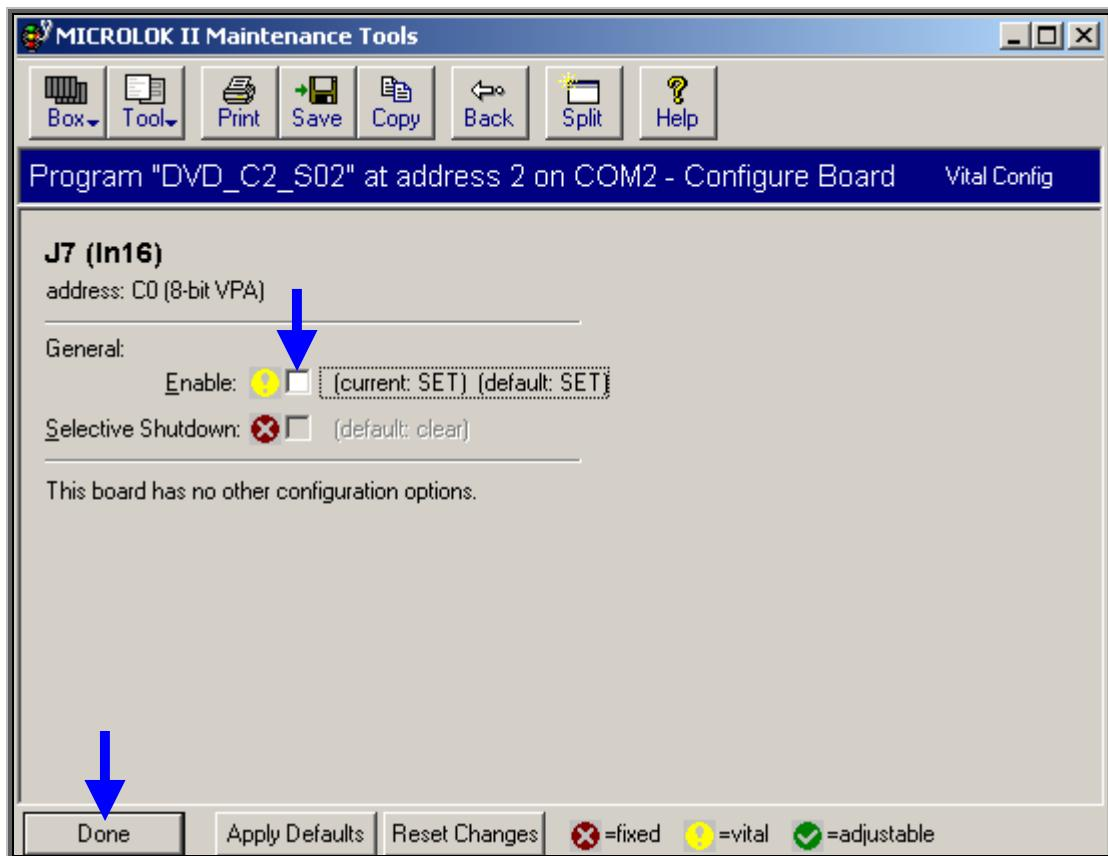

Figure-7.5.2.3
- ◆ User wants to disable the particular board, click the “Enable” selection square box (Refer Figure-7.5.2.3).